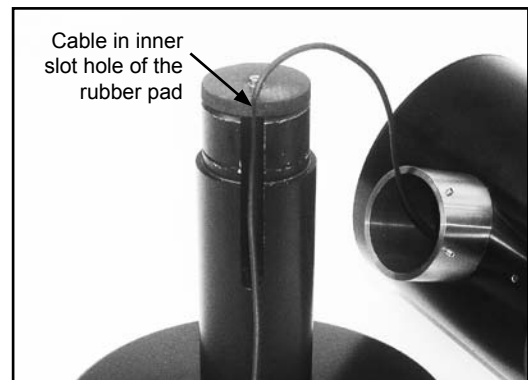

Fig. 4.7
5. On top of the neck, slide the cable into the inner slot hole of the rubber pad on top (Fig. 4.7).